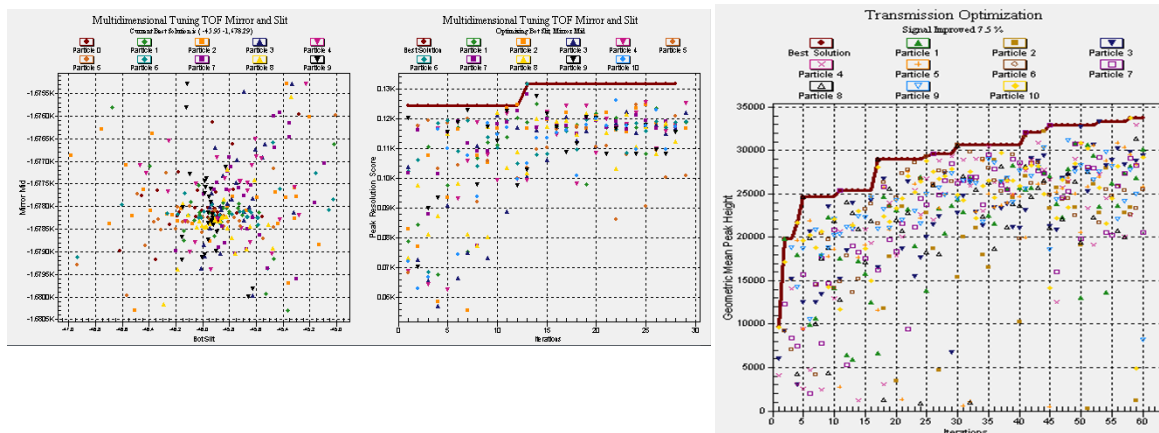

Figure 27 SWARM multi dimensional tuning to find the best combination of all parameters
- The red line represents the best scores achieved by the swarm. See Figure 27 on page 69.